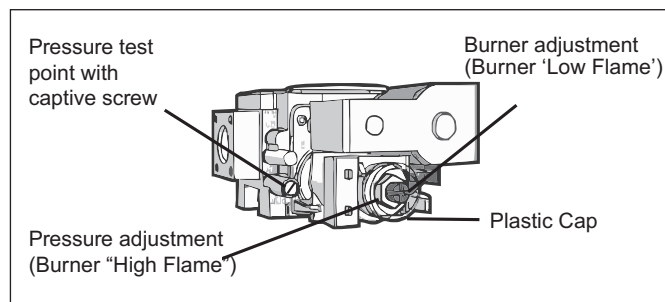

FIG 17
1. Gas valve layout is indicated in **FIG 17**.